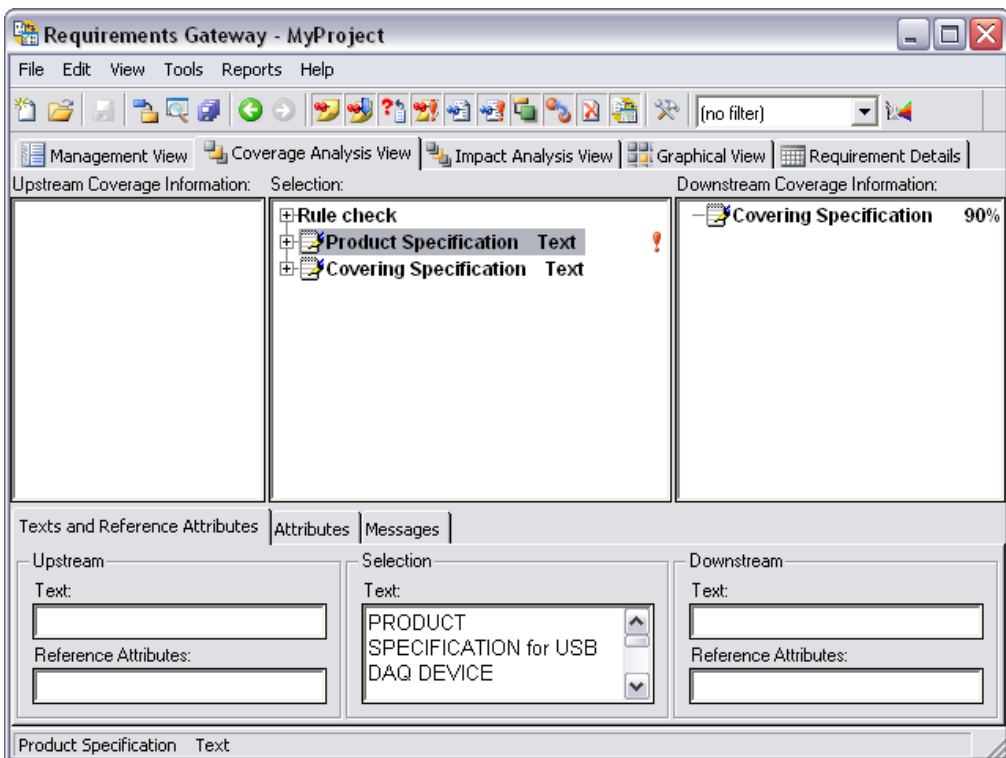

Figure 3-1. Coverage Analysis View
2. Click the **Coverage Analysis View** tab in the main window. Check to make sure that the Product Specification and the Covering Specification documents in the Selection column are collapsed, as shown in Figure 3-1.